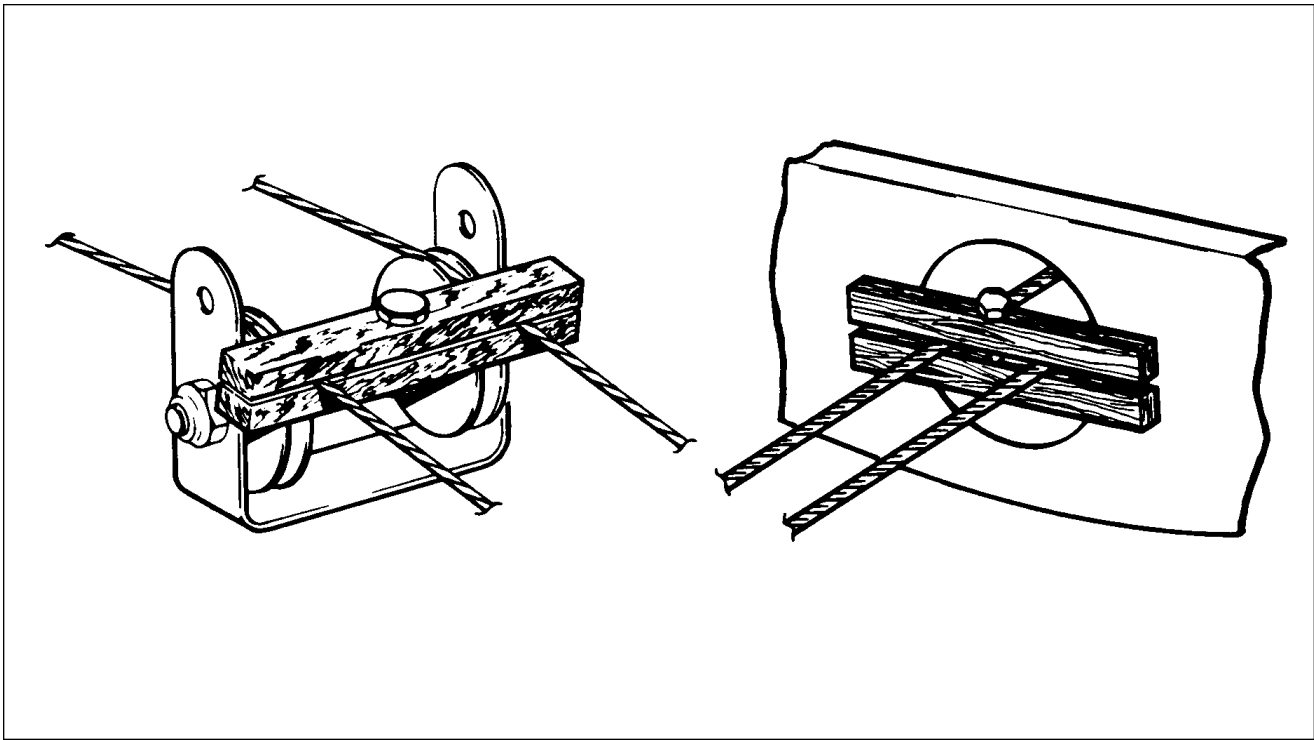

Figure 55-2. Methods of Securing Control Cables
4. Install cable blocks, per figure 55-2, on the stabilator trim control cable at the first set of pulleys forward of the cable turnbuckles to prevent the forward cable from unwrapping.